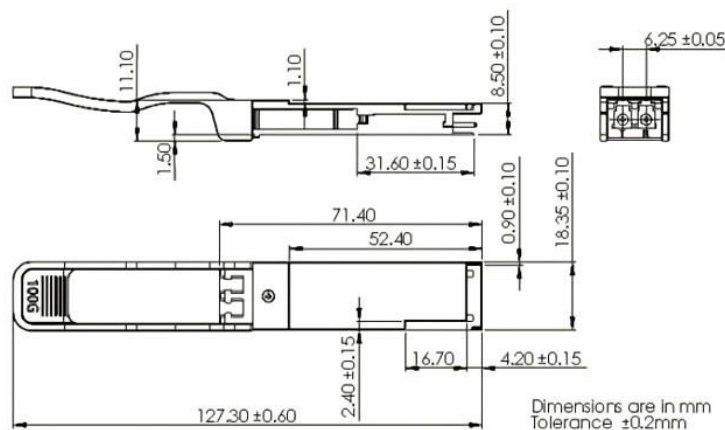

Figure 3 – Mechanical Outline
2. VccRx, Vcc1 and VccTx are the receiving and transmission power suppliers and shall be applied concurrently. Recommended host board power supply filtering is shown in Figure 3 below. Vcc Rx, Vcc1 and Vcc Tx may be internally connected within the module in any combination. The connector pins are each rated for a maximum current of 1000mA.